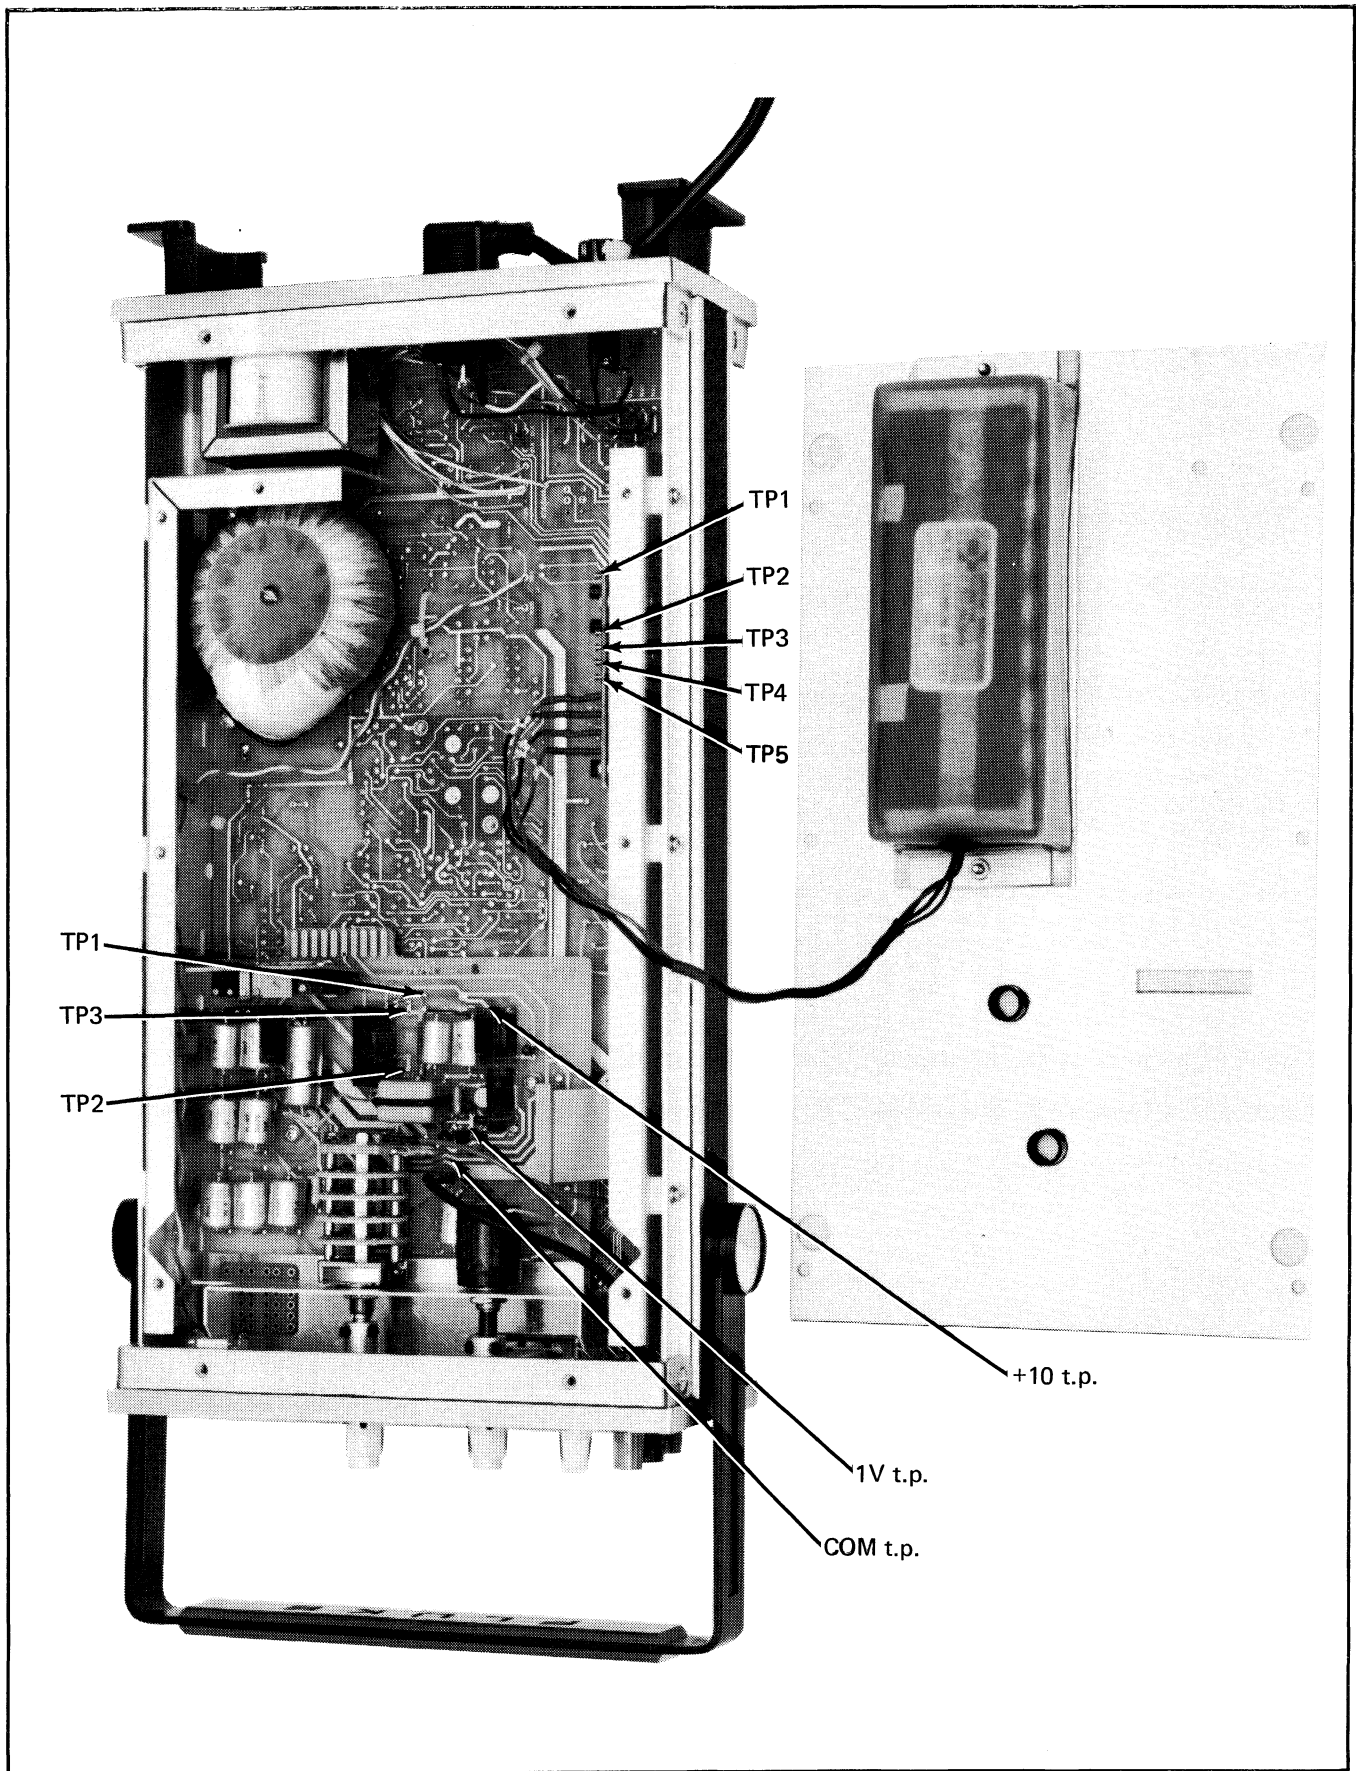

Figure 4-3. BOTTOM VIEW, GUARD REMOVED.
- a. Locate the assembly to be removed using Figure 4-3.
4-18. The batteries are installed on the inside of the bottom guard as shown in Figure 4-3. If replacement is necessary, the entire Battery Pack, FLUKE PART NO. 284356, should be replaced. Proceed as follows:
- a. Disconnect the four wires labeled 1 through 4 from A3 Battery Pack PCB. Refer to Figure 4-3 for location.